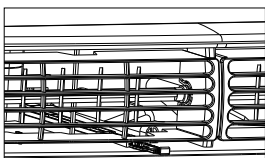

Figure 2 (FRESH AIR)
- Draw fresh air into the room - Fresh Air (see Fig. 2)